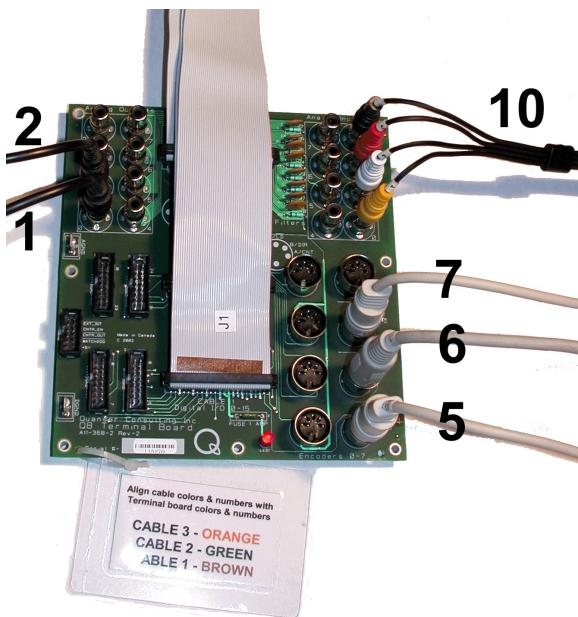
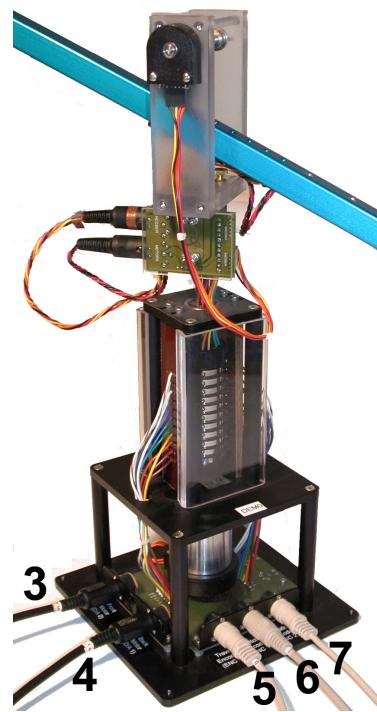

Figure 18 Q8 Terminal Board Connections
Figure 19 3-DOF Helicopter Connections
3. Connect the 5-pin-DIN to RCA cable from the *Analog Output Channel #0* on the DAC board to the *From D/A Connector* on a UPM-2405. See cable #1 shown in Figure 16 and Figure 18. This carries the attenuated **front** motor voltage control signal,  $V_f/K_a$ , where  $K_a$  is the UPM-2405 amplifier gain.
4. Connect the 5-pin-DIN to RCA cable from the *Analog Output Channel #1* on the DAC board to the *From D/A Connector* on a UPM-2405. See the cable #2 shown in Figure 17 and Figure 18. This carries the attenuated **back** motor voltage control signal,  $V_b/K_a$ .
UPM-2405 to the *Front Motor* connector. See connection #3 shown in Figure 16 and Figure 19. This cable sets the gain of the amplifier to 5 and the connector on the UPM-side is gray in colour. The cable transmits the amplified voltage that is applied to the **front** motor, denoted  $V_f$
6. Connect the 4-pin-stereo-DIN to 6-pin-stereo-DIN that is labeled **Gain 5** from *To Load* on the UPM-2405 to the *Back Motor* connector. See connection #4 shown in Figure 17 and Figure 19. The cable carries the amplified **back** motor voltage and is represented by the variable  $V_b$ .
7. Connect the 5-pin-stereo-DIN to 5-pin-stereo-DIN cable from the *Travel Encoder* connector on the 3-DOF Helicopter base to *Encoder Input # 0* on the terminal board, as depicted by connection #5 in Figure 18 and Figure 19. This carries the travel angle measurement and is denoted by the variable  $\lambda$ .
8. Connect the 5-pin-stereo-DIN to 5-pin-stereo-DIN cable from the *Pitch Encoder* connector on the 3-DOF Helicopter base to *Encoder Input # 1* on the terminal board. See connection #6 in Figure 18 and Figure 19. This carries the pitch angle measurement which is represented by the variable  $p$ .
9. Connect the 5-pin-stereo-DIN to 5-pin-stereo-DIN cable from the *Elevation Encoder* connector on the 3 DOF Helicopter base to *Encoder Input # 2* on the terminal board. This connection is illustrated in Figure 18 and Figure 19 by ID #7. It carries the elevation angle measurement,  $\varepsilon$ .
10. **If you are using the analog joystick shown in Figure 24 go to Step 11.** If you are using are using the Logitech Attack 3 USB joystick shown in Figure 25, then connect the USB cable from the joystick to a USB port on the PC while it is running. The system should detect the joystick and automatically install the driver (you will be prompted). See the *Logitech Installation Manual* for more information on the setup procedure. Note that if the USB joystick is used then the analog connections shown in Figure 17 and the 5-pin-DIN to 4xRCA cable connection shown in Figure 17 and Figure 18 are not needed and these cables would not be supplied. Also, the shaded connections listed in Table 6 can be ignored. See Section 5.5 for more information on system requirements of the Logitech joystick and how to use the *Rate Command* knob.
12. Connect the "**To A/D**" socket on the UPM-2405 with the joystick connections to Analog Inputs #0-3 on the terminal board using the 5-pin-DIN to 4xRCA cable, as illustrated in Figure 17 and Figure 18. The RCA side of the cable is labeled with the channels. Note that the cable with label "1" is goes to *Analog Input Channel #0*. **Ensure UPM and PC are off when making this connection!** The X and Y signals that are connected to the "**S3**" and "**S4**" terminals on the UPM are read in as *Analog Input #2* and *Analog Input #3* in WinCon.